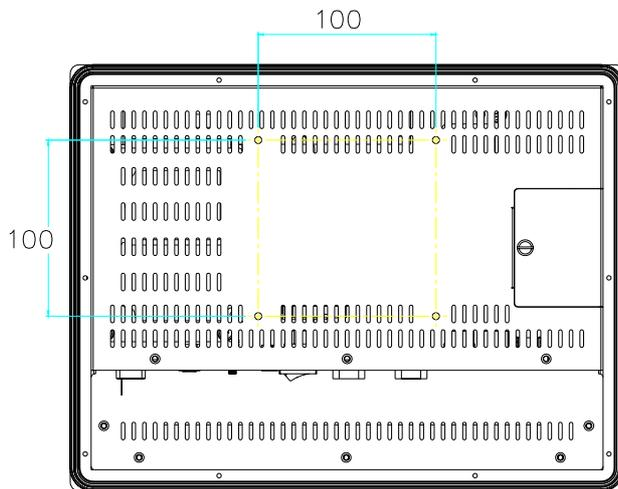

Figure 3-17: Arm Mounting Retention Screw Holes
Step 3: Align the retention screw holes on the mounting arm interface with those in the flat panel PC. The flat panel PC arm mount retention screw holes are shown in **Figure 3-17**.